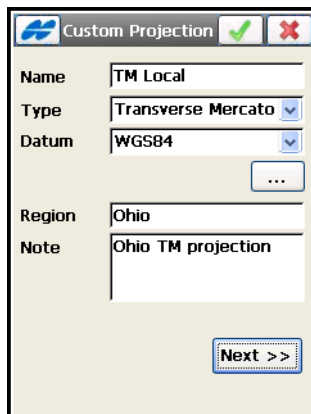

Figure 4-87. Custom Projection
- Tap the **Add** button. On the **Custom Projection** screen, enter the name for the new custom grid system and select a sample projection and datum from the lists of available types, enter the region and any additional information (Figure 4-87). Tap **Next**.